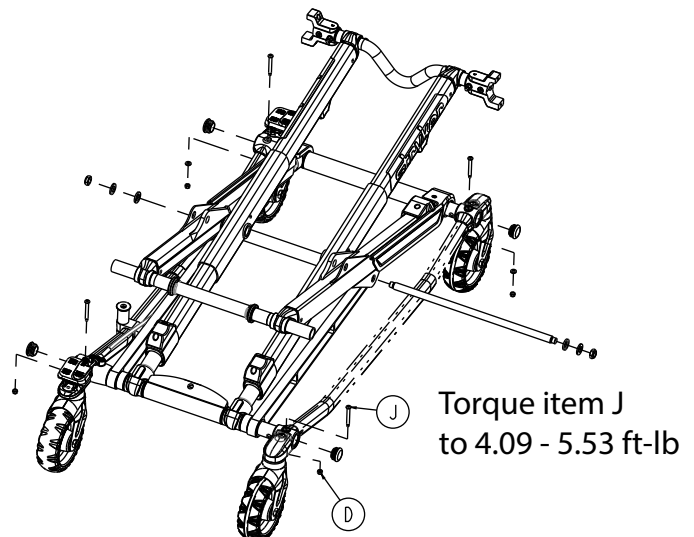

Figure 81 – Remove the foot end bolt and nut
9. Using a T27 Torx driver and a 3/8" combination wrench, remove the caster mount bolt (J) and fiberlock nut (D) that secure the outer base tube (Figure 81). Save the bolt and nut. Repeat on the head end.